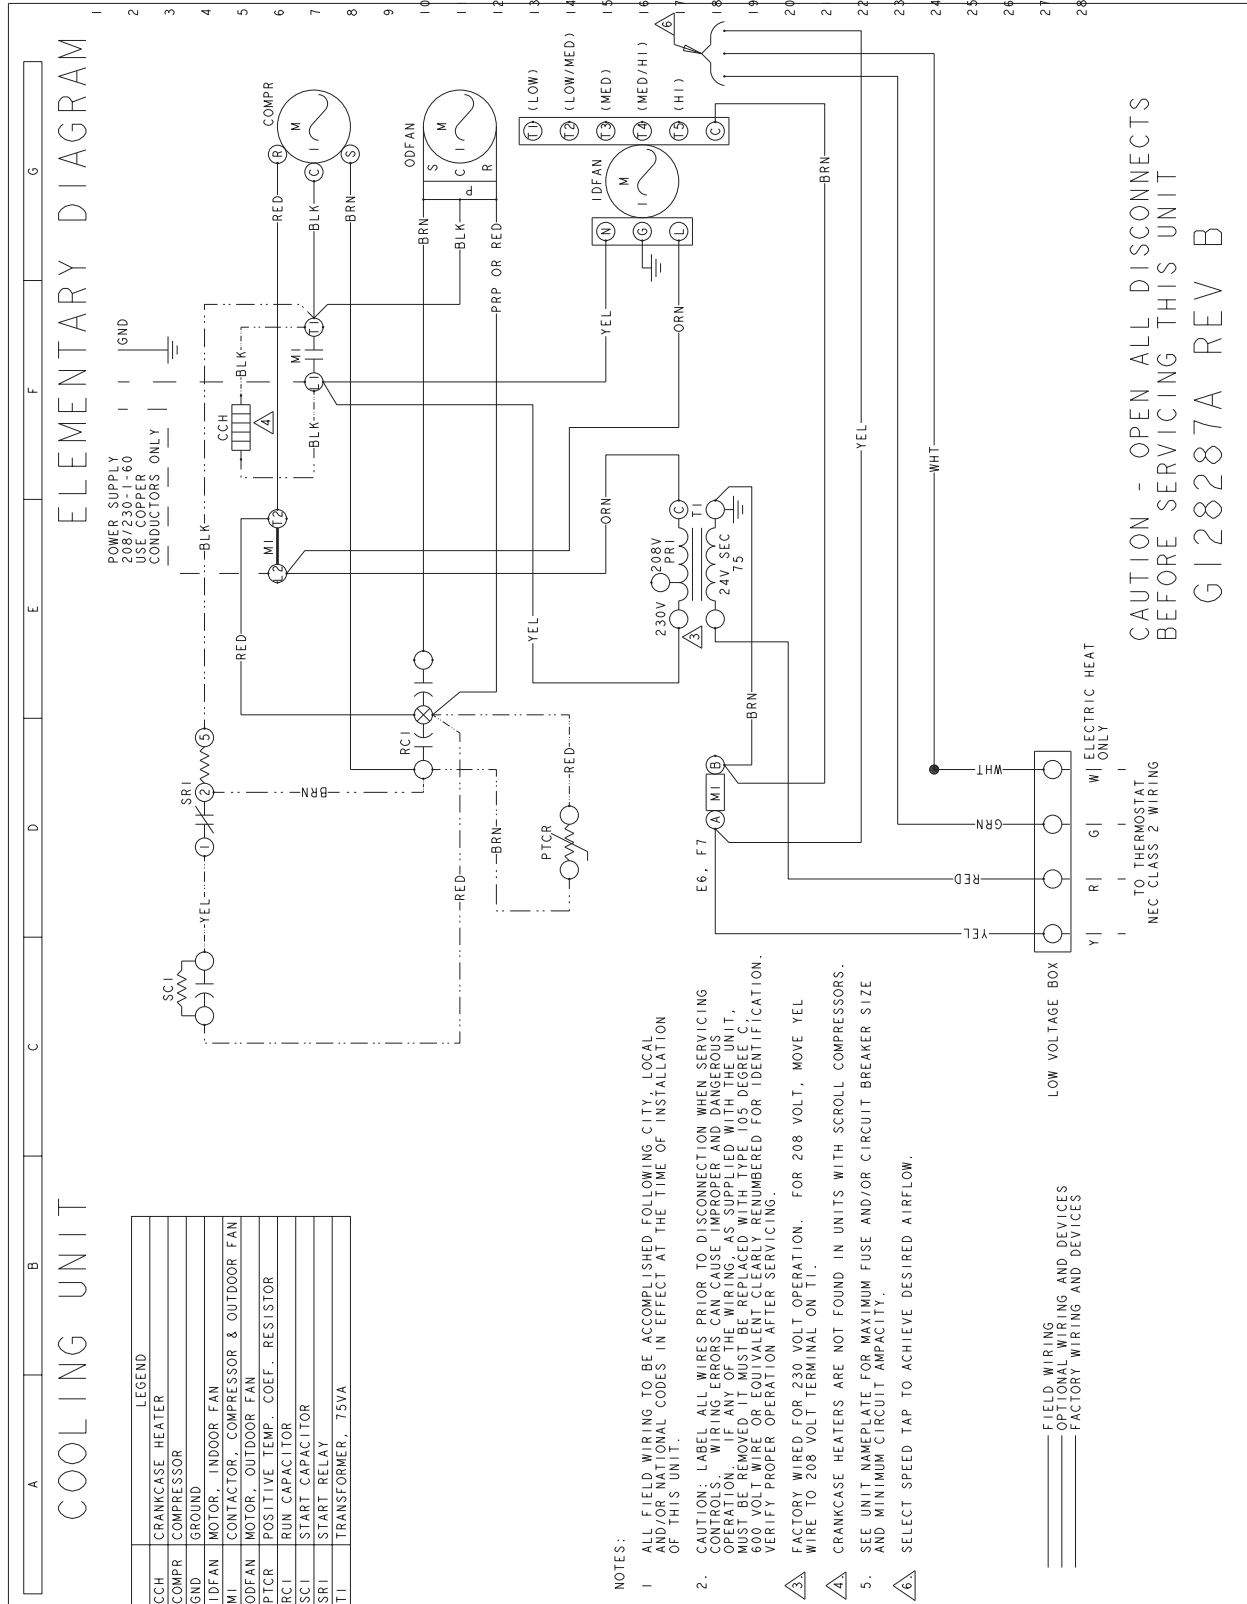

FIGURE 2: TYPICAL SJ, PAC 042, 048, & 060 WIRING DIAGRAM
4. Attach the brown lead wire from the starting kit relay #2 to the same terminal on the run capacitor that was located in Step 3. See Figure 2.
NOTE: The wiring of the capacitor and relay must agree with Figure 2. Also, see diagram on control box cover.